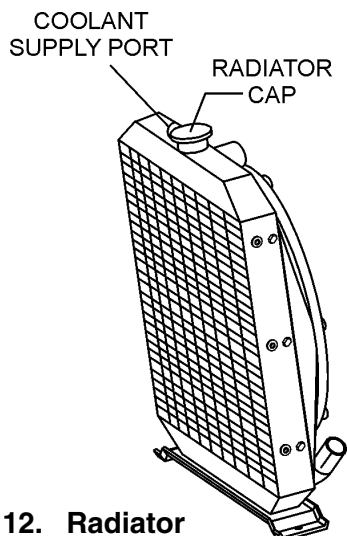

Figure 12. Radiator
1. Remove the radiator cap (Figure 12) only after the engine has completely *cooled*, and check to see that the coolant reaches the supply port.